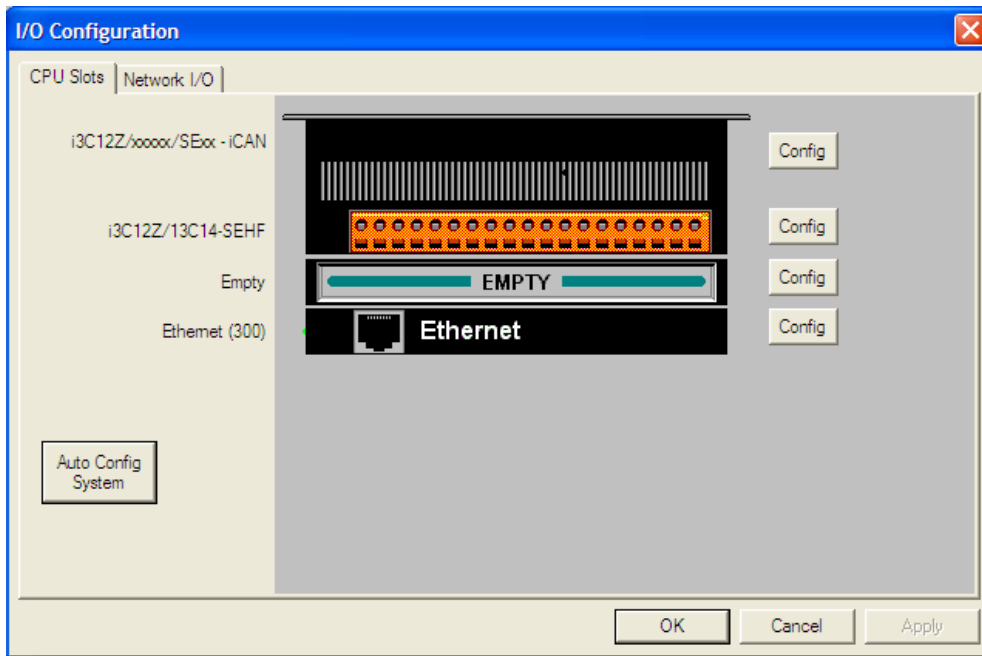

Figure 7.2.1 – I/O Configuration Dialog
1. On the main *i*3 Configurator screen, select the **Controller** menu and its **I/O Configure** sub-menu to open the I/O Configuration dialog (Figure 7.2.1)